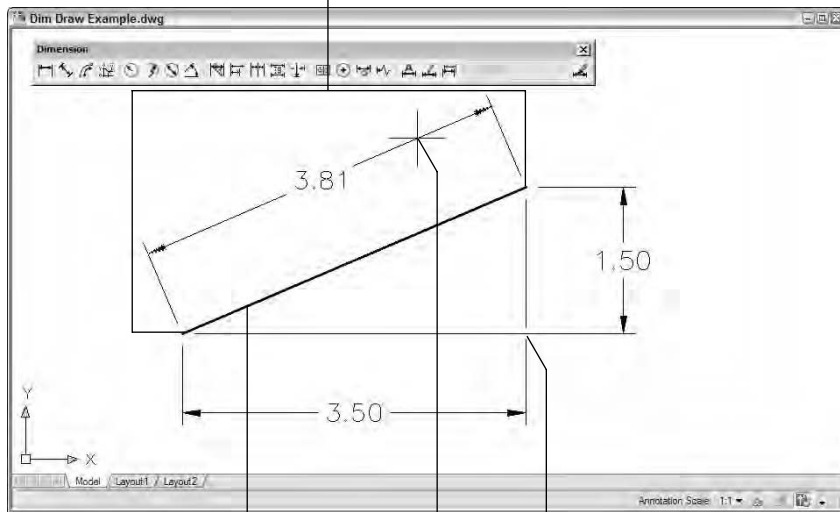

Figure 11-9:
AutoCAD automatically finds the endpoints of the line and uses them as the extension line origin points, as shown in Figure 11-9.
- ✓ **DIMBREAK:** In manual drafting, it's considered bad form to cross object lines (that is, real geometry) with dimension lines or extension lines. Dimension Break prompts you to select a dimension and then an object to break it. In Figure 11-9, the right extension line of the 3.50 horizontal dimension is broken by the lower extension line of the 1.50 vertical dimension. You can use DIMBREAK on the new multileader objects as well.